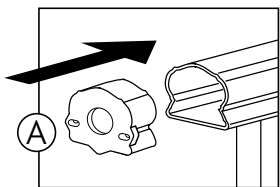

Figure 4
- 4.) Slide two top and bottom rail brackets on ends of completely built rail sections (Figures 4 & 5).